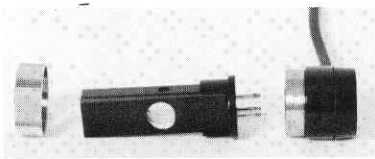
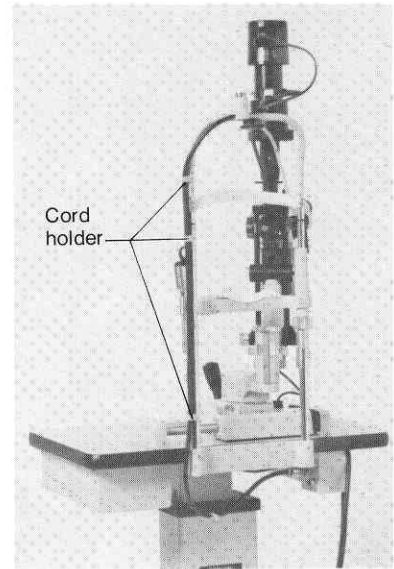

Fig. 69
Fig. 68
Fix it by those two screws as shown Fig. 68.
- (b) Fix the cord at three points by the cord holder of the pole of chin rest and the screws of the pole. (See Fig. 68)
(6) Attaching the Xenon Flash Lamp
- (a) Take off the ring of the trigger coil⁵³ and insert the Xenon lamp⁵⁹ and fix it with the ring (See Fig. 69)